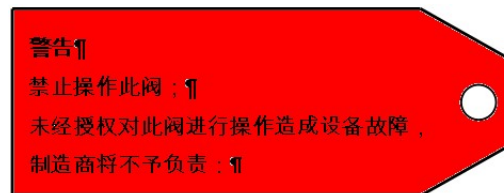

Fig. 20
- Never touch the two closing valves placed at both ends of each tube connecting each tank to the bushing flange. If these valves are closed, the oil dilatation compensation system of the bushing won't work anymore, with high risk to have a disruptive mechanical failure of the bushing. These four (2+2) valves must be maintained always open to allow the oil passage. A red label reminds this concept with a warning in English and Chinese languages (fig. 20).